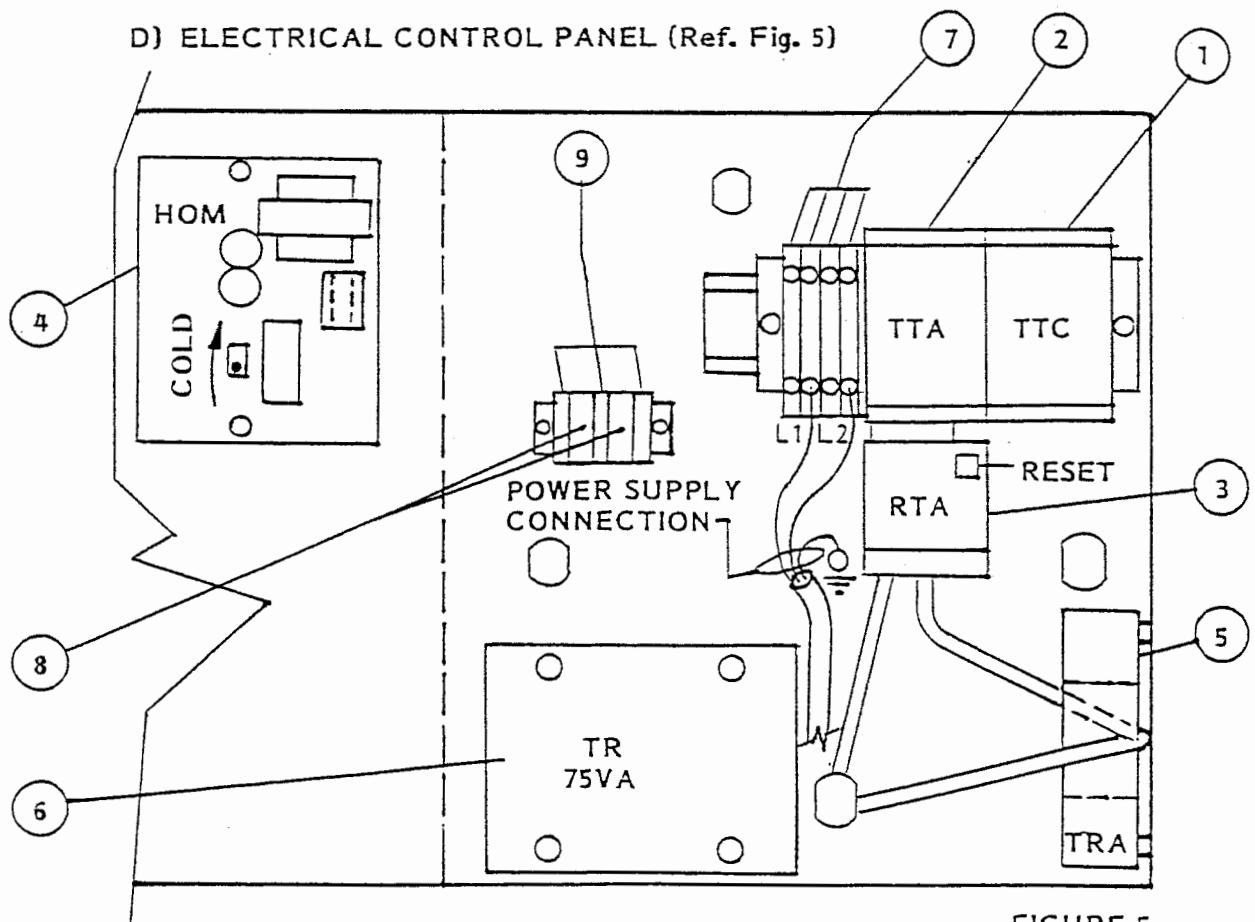

FIGURE 5
#### D) ELECTRICAL CONNECTIONS (REF. FIG. 5).
**D) ELECTRICAL CONTROL PANEL (Ref. Fig. 5)**